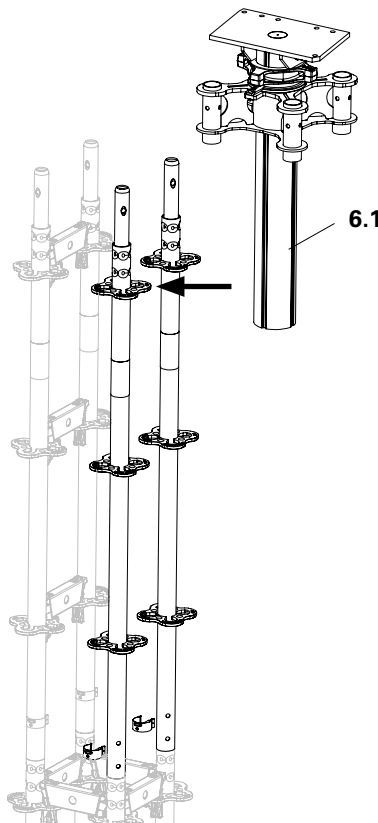

Fig. A1.06
4. Push the Spindle Tube (6.1) through between the rosettes of turned Standards and attach Head Spindle on the Standards. (Fig. A1.06)